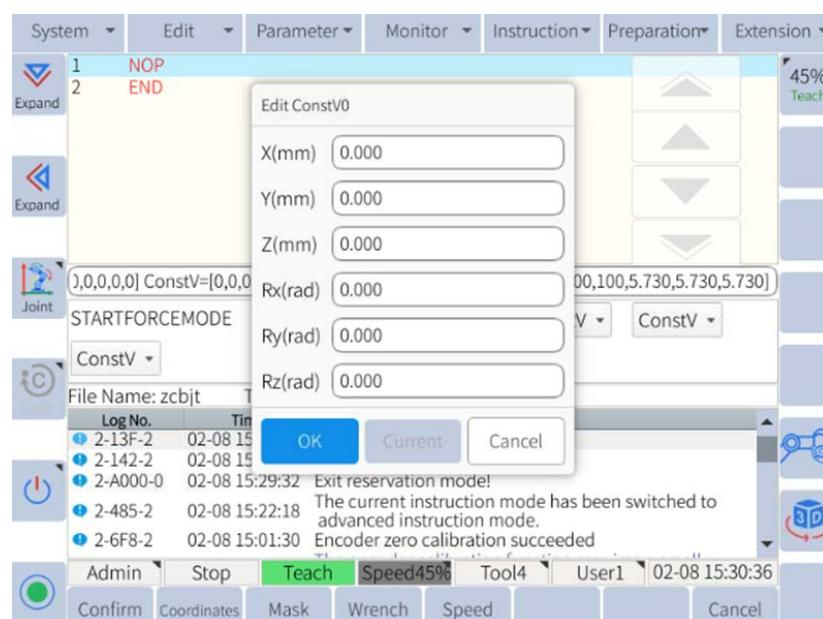

Figure 6-49: Setting the parameters of the force control coordinate system
- After changing the variable “V” to “ConstV”, four buttons like **coordinate**, **mask**, **force** and **speed** will appear in the bottom menu bar of the teach pendant (The user can also set the parameters of the force control through changing the variable V/LV.). The user can set the force control coordinate system by clicking the **coordinate** button. In this display, there are 3 parameters of the position and 3 parameters of the rotation axis. A pose matrix indicating the transformational relations between the user-specified force control coordinate system and the base coordinate system can be worked out with the parameters. If all the parameters are set to 0, it indicates that the force control coordinate system is concentric with the base coordinate system, as shown in Figure 6-49.